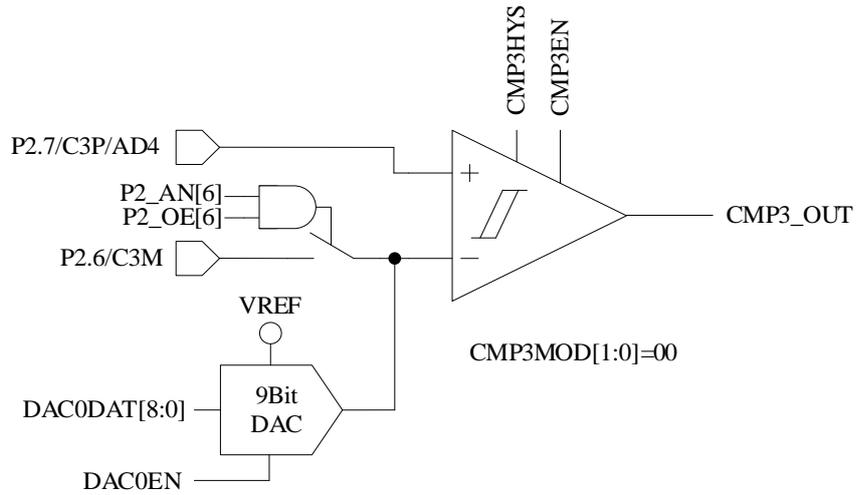

Figure 31-2 Single-comparator Input Mode
- When CMP\_CR1[CMP3MOD] = 00, CMP3 works in Single-comparator Input Mode. The connection of input and output pins are shown in Figure 31-2.